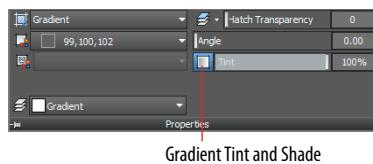

FIGURE 8.20 Configuring a gradient hatch
2. Scroll down in the Pattern panel, and select the GR_HEMISP gradient. In the Properties panel select 99, 100, 102 (see Figure 8.20) in the Gradient Color 1 drop-down. In the right column, click the Gradient Tint and Shade button to create a one-color gradient. Expand the Properties panel and select Gradient in the Hatch Layer Override drop-down. Press Esc.